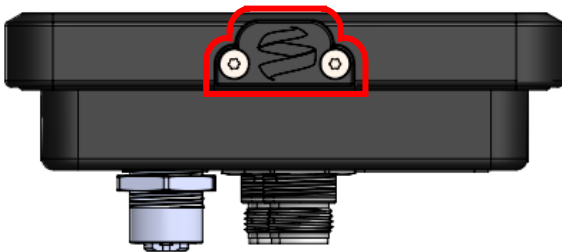

Figure 33: ConnectBox side panel micro-USB plug and two Torx-8 screws
The side panel shown in Figure 33 provides access to the ConnectBox micro-USB connector (to which the OTG cable connects).
2. Remove the ConnectBox micro-USB port cover, seen in Figure 33, using a T-8 torx bit.